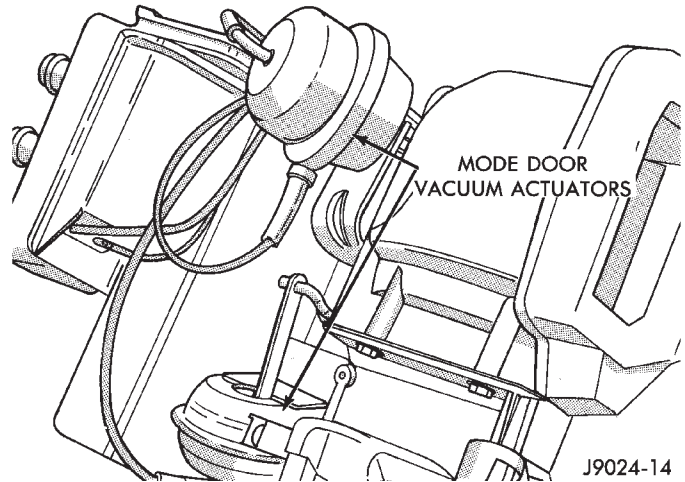

Fig. 4 Mode Door Vacuum Actuators
- (1) Disconnect the vacuum line.
- (2) Locate and remove 2 vacuum actuator attaching bolts (Fig. 4).
- (3) Disengage drive linkage from mode door crank and remove the actuator.